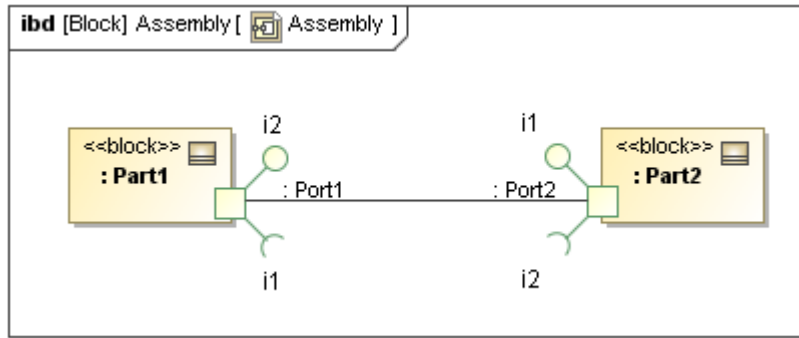
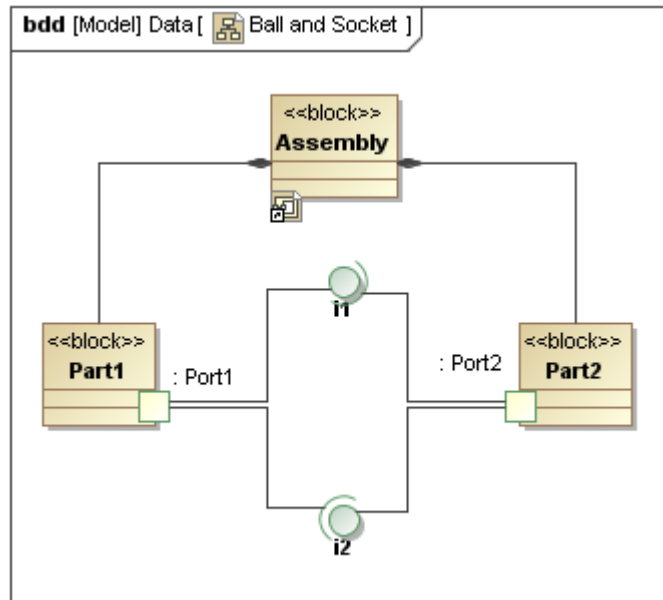

Figure 79 -- IBD with Required and Provided Interfaces Displayed
Figure 80 -- BDD with Parts, Ports and Interfaces
- The Required / Provided Interfaces will be displayed on the port, in the form of ball-socket (lollipop) notation (Figure 79).
The model in Figure 79 corresponds to the model in Figure 80.